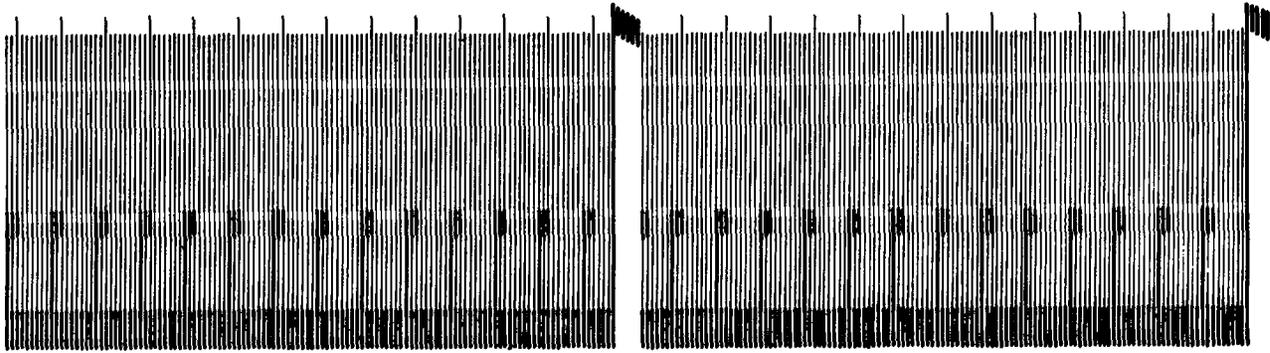
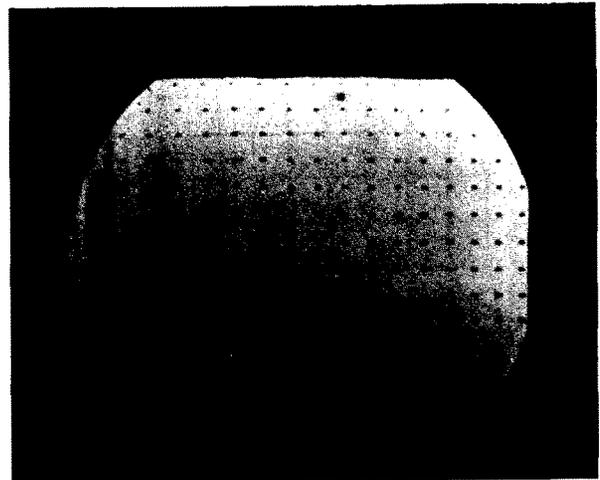

Figure 25. The Voltage Waveform of the Cross-Hatch Signal.
Figure 27. Poor Low-Frequency Response.
The Television Videometer (Figure 24) can be considered as an elaboration of the previous linearity and cross-bar generators. Thus, it will produce horizontal or vertical bars separately, a crosshatch pattern or a dot pattern. The latter is shown in Figure 27. There are also available 60 cycle and 15,750 cycle saw-tooth voltages, permitting this instrument to serve in place of the receiver saw-tooth generators. RF signals covering channels 2 to 13 can be internally modulated by the signal shown in Figure 25. (This is the crosshatch signal in voltage form.) By means of a high-frequency probe and an oscilloscope, this signal can be traced through the RF and IF stages of a television receiver. When the probe is placed at a point in either system, the waveform shown in Figure 25 should appear on the scope screen. Absence or distortion of the signal indicates that the circuit is defective.
2. Low Frequency Response. If, in viewing the dot pattern the picture shading gradually gets darker from top to bottom of the raster, the low frequency response is poor. See Figure 27. This may be due to a grid resistor in the video amplifier decreasing in value or a coupling capacitor of decreased value.